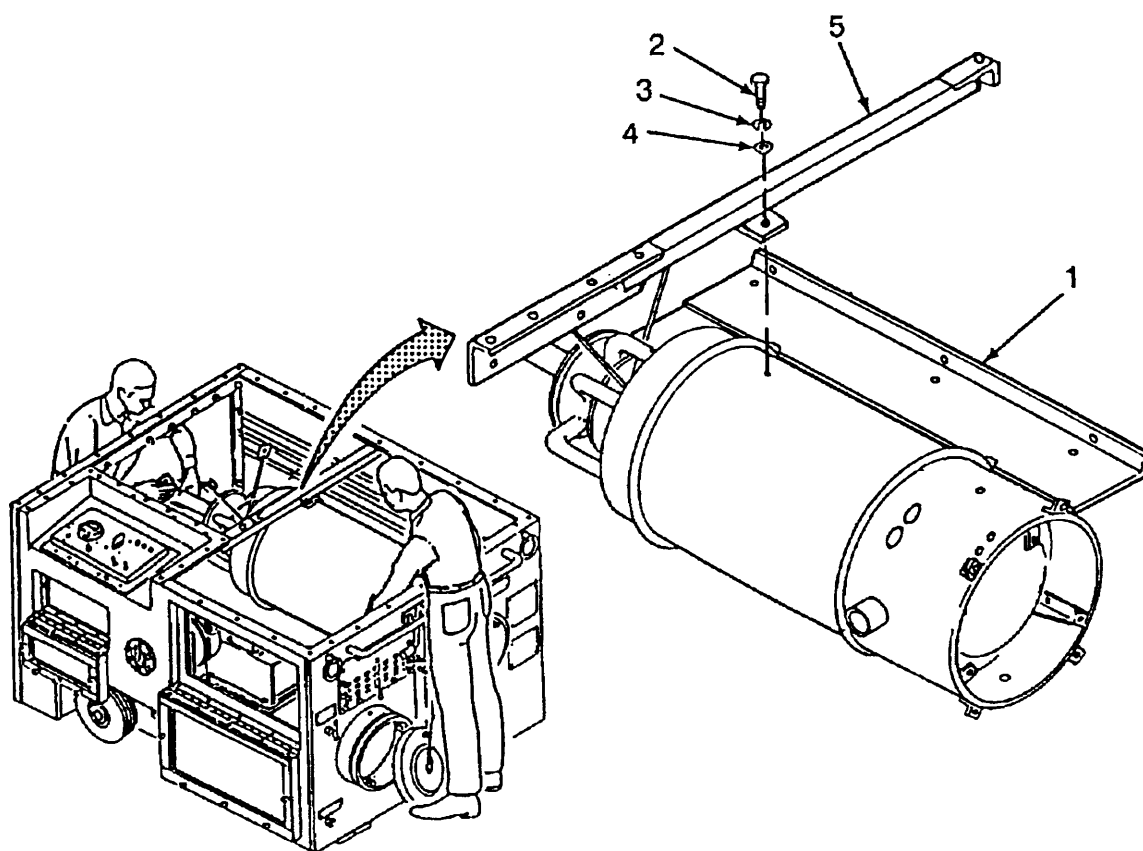

Figure 5-12.1. Heat Exchanger, (Model H120-1) Removal
- a. Removal - continued (Refer to Figure 5-12.1)